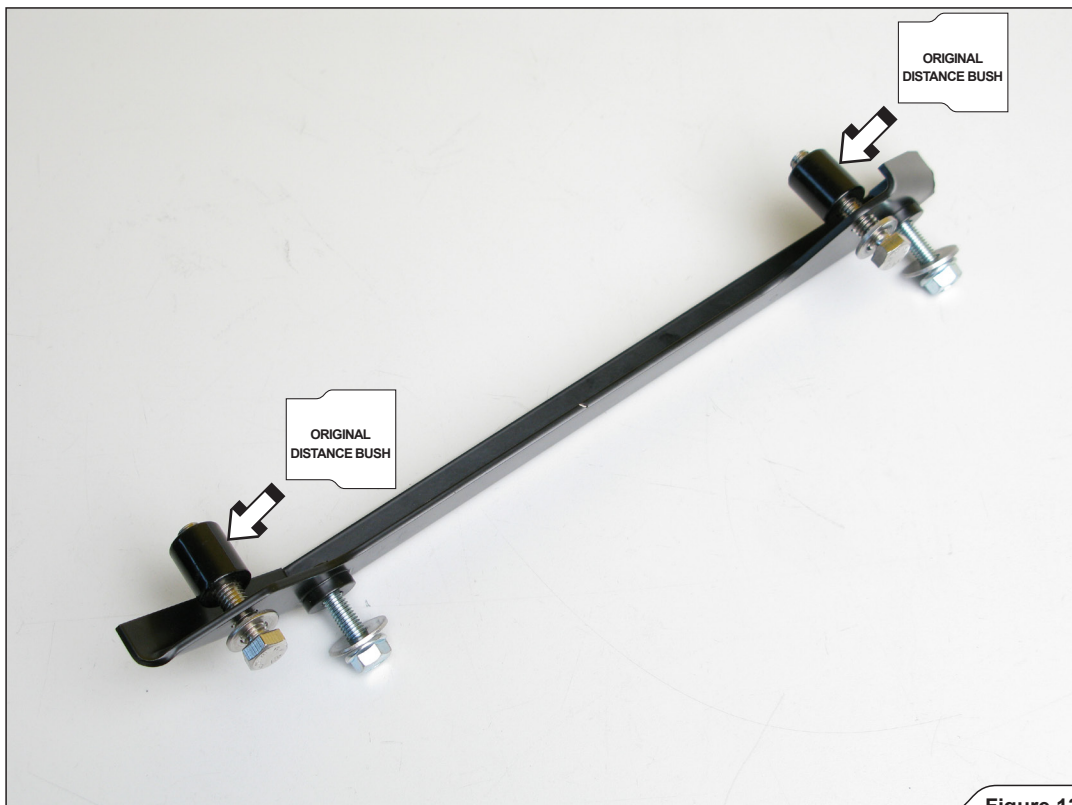

Figure 13
2. Assemble the Akrapovič brackets onto the motorcycle, using original distance bushes and bolts and washers from Akrapovič installation kit (**Figure 13, 14**).